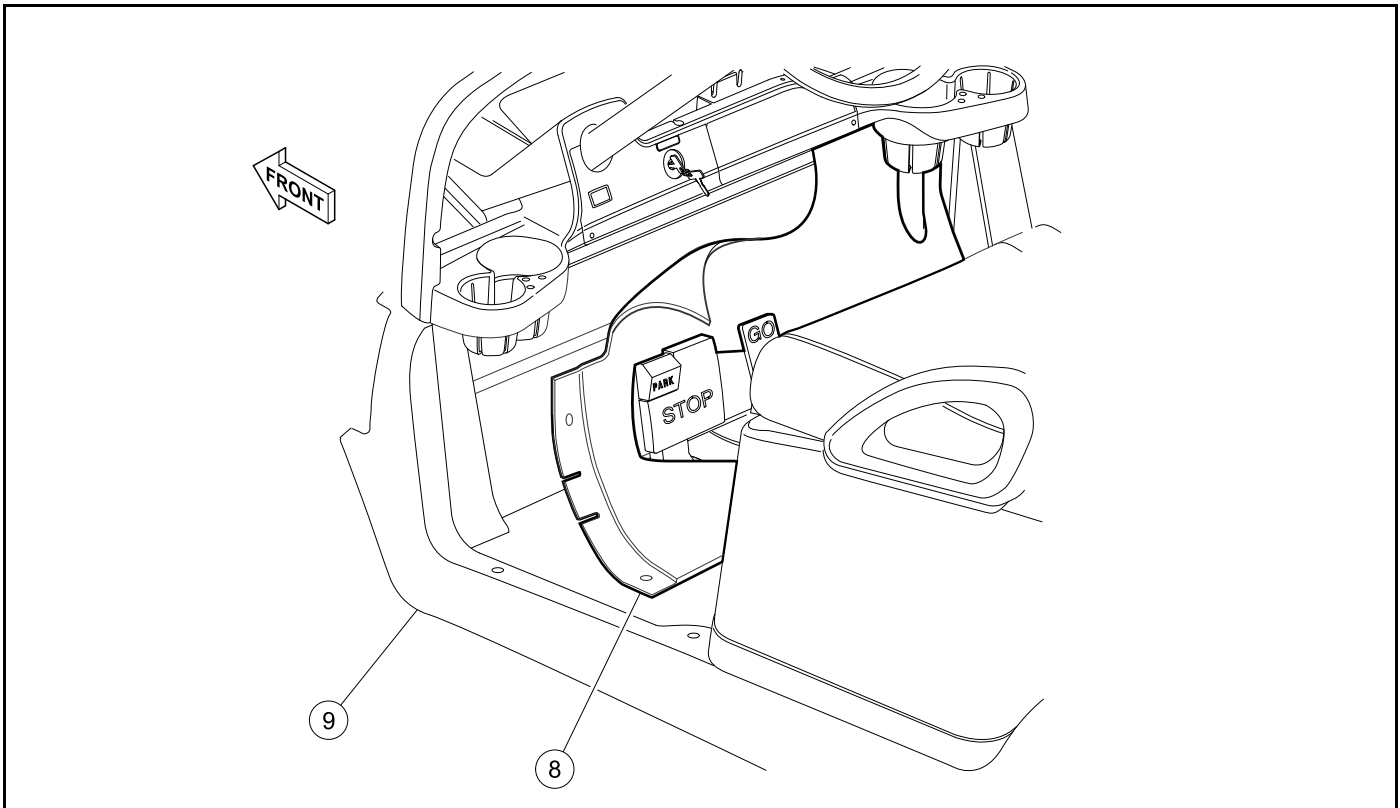

Figure 5-8
9. Install the floor mat (8) over the pedal group (**Figure 5-8**).